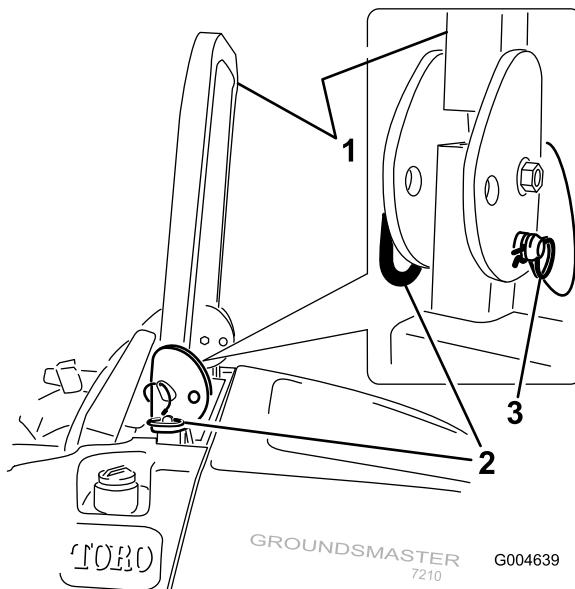

Figure 10
1. To lower the roll bar, remove the hairpin cotters, push the roll bar forward against the springs, and remove the 2 pins (Figure 10).
- Install the 2 pins and secure them with the hairpin cotter pins (Figure 10).
- To raise the roll bar, remove the hairpin cotter pins and remove the 2 pins (Figure 10).
- Raise the roll bar to the upright position and install the two pins and secure them with the hairpin cotter pins (Figure 10).